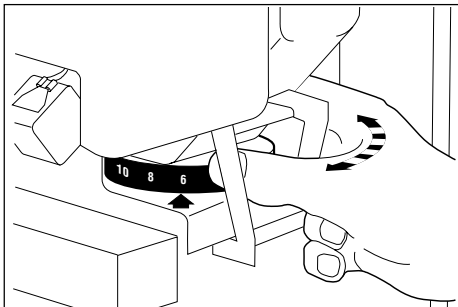

Fig. 15
- The grinder can be adjusted to one of the following suggested values by turning the grinder adjusting ring (23) (Fig. 15):